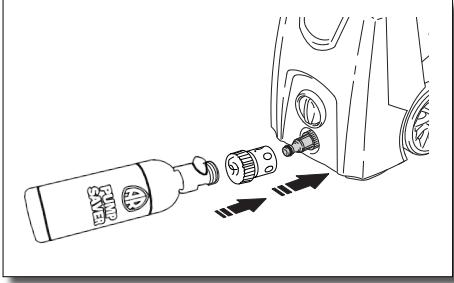

Fig. 25
- For easy handling, attach the spray gun into the back of the unit. (Fig. 25)
4. Screw the dispensing valve on the bottle of the Pump Saver into the water inlet on your power washer. (Fig. 25)